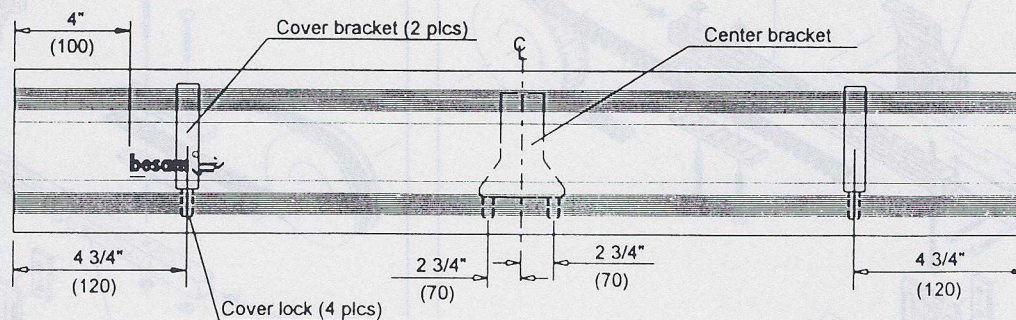

Fig. 33a
2. The cover is fixed by means of pre-mounted spring-loaded cover locks. The cover locks are slid over a special flange in the lower part of the cover and positioned as indicated in fig. 33a and 33b.